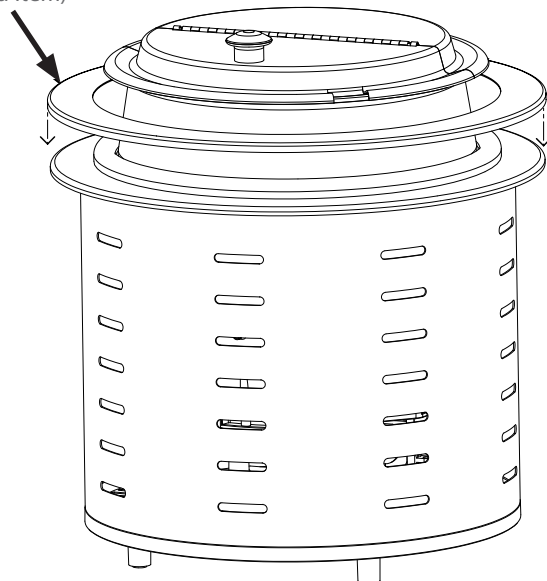

Figure 8: Install the Stainless Steel Overlay Accessory
3. Install the stainless steel overlay, if the accessory was ordered (Figure 8, below).